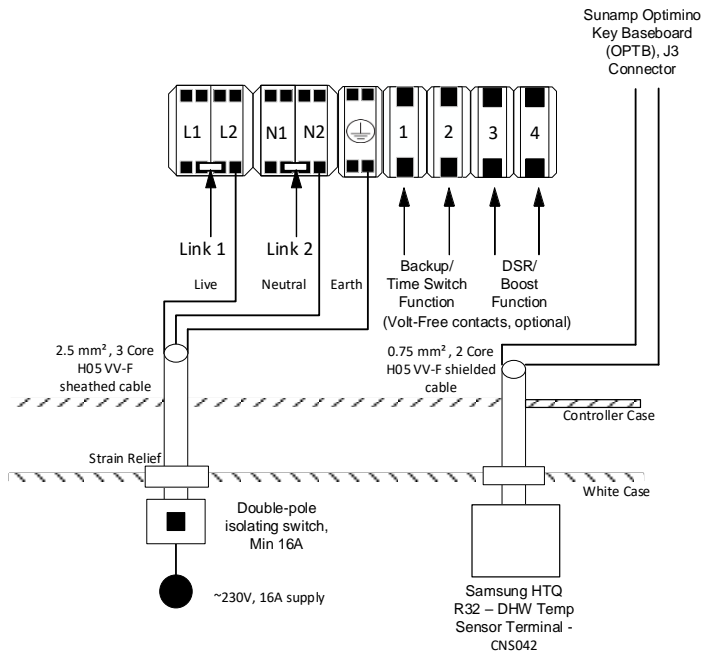

Figure SG.1 - Thermino xPlus with SG01 Optimino key
- Thermino xPlus with the “SG01” & “SG02” Optimino keys (D0084 – Section 6.4.2 for wiring instructions & Figures SG.1 & SG.2 below)
cables in terminals J3 on the Optimino Board, please see Figures SG.1 & SG.2 below for reference.